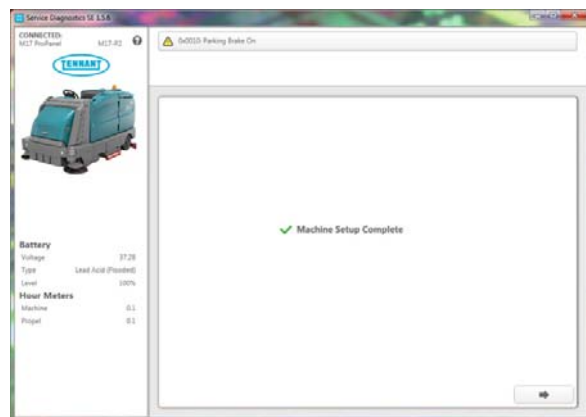

FIG. 19
- The Machine Setup Complete screen appears after configuration is complete. (Fig. 19)